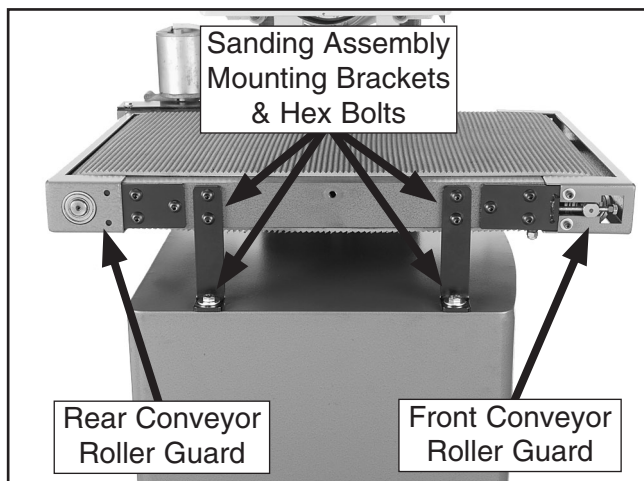

Figure 40. Conveyor roller guards and sanding assembly mounting brackets.
2. Use a 4mm hex wrench to remove the M4-.7 x 10 cap screws and flat washers securing the front and rear conveyor roller guards (see **Figure 40**), then remove the guards.
- Loosen the four upper button head cap screws securing the sanding assembly mounting brackets to the conveyor (see **Figure 40**).
- Use a 12mm hex wrench to remove the two $\frac{5}{16}$ "-18 x 1" hex bolts, flat washers, and hex nuts securing the left sanding assembly mounting brackets (see **Figure 40**).